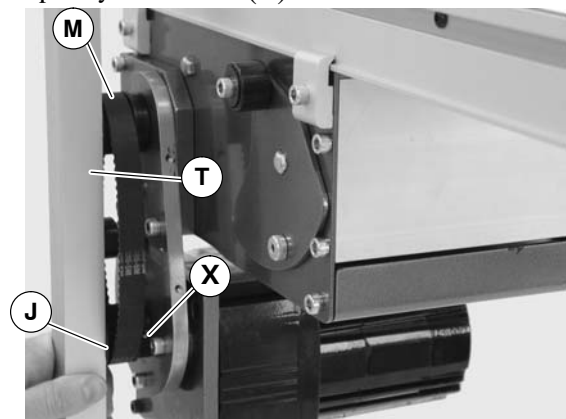

Figure 24
11. Using a straight edge (T of Figure 24), align drive pulley (J) with driven pulley (M). Tighten drive pulley set screws (X).